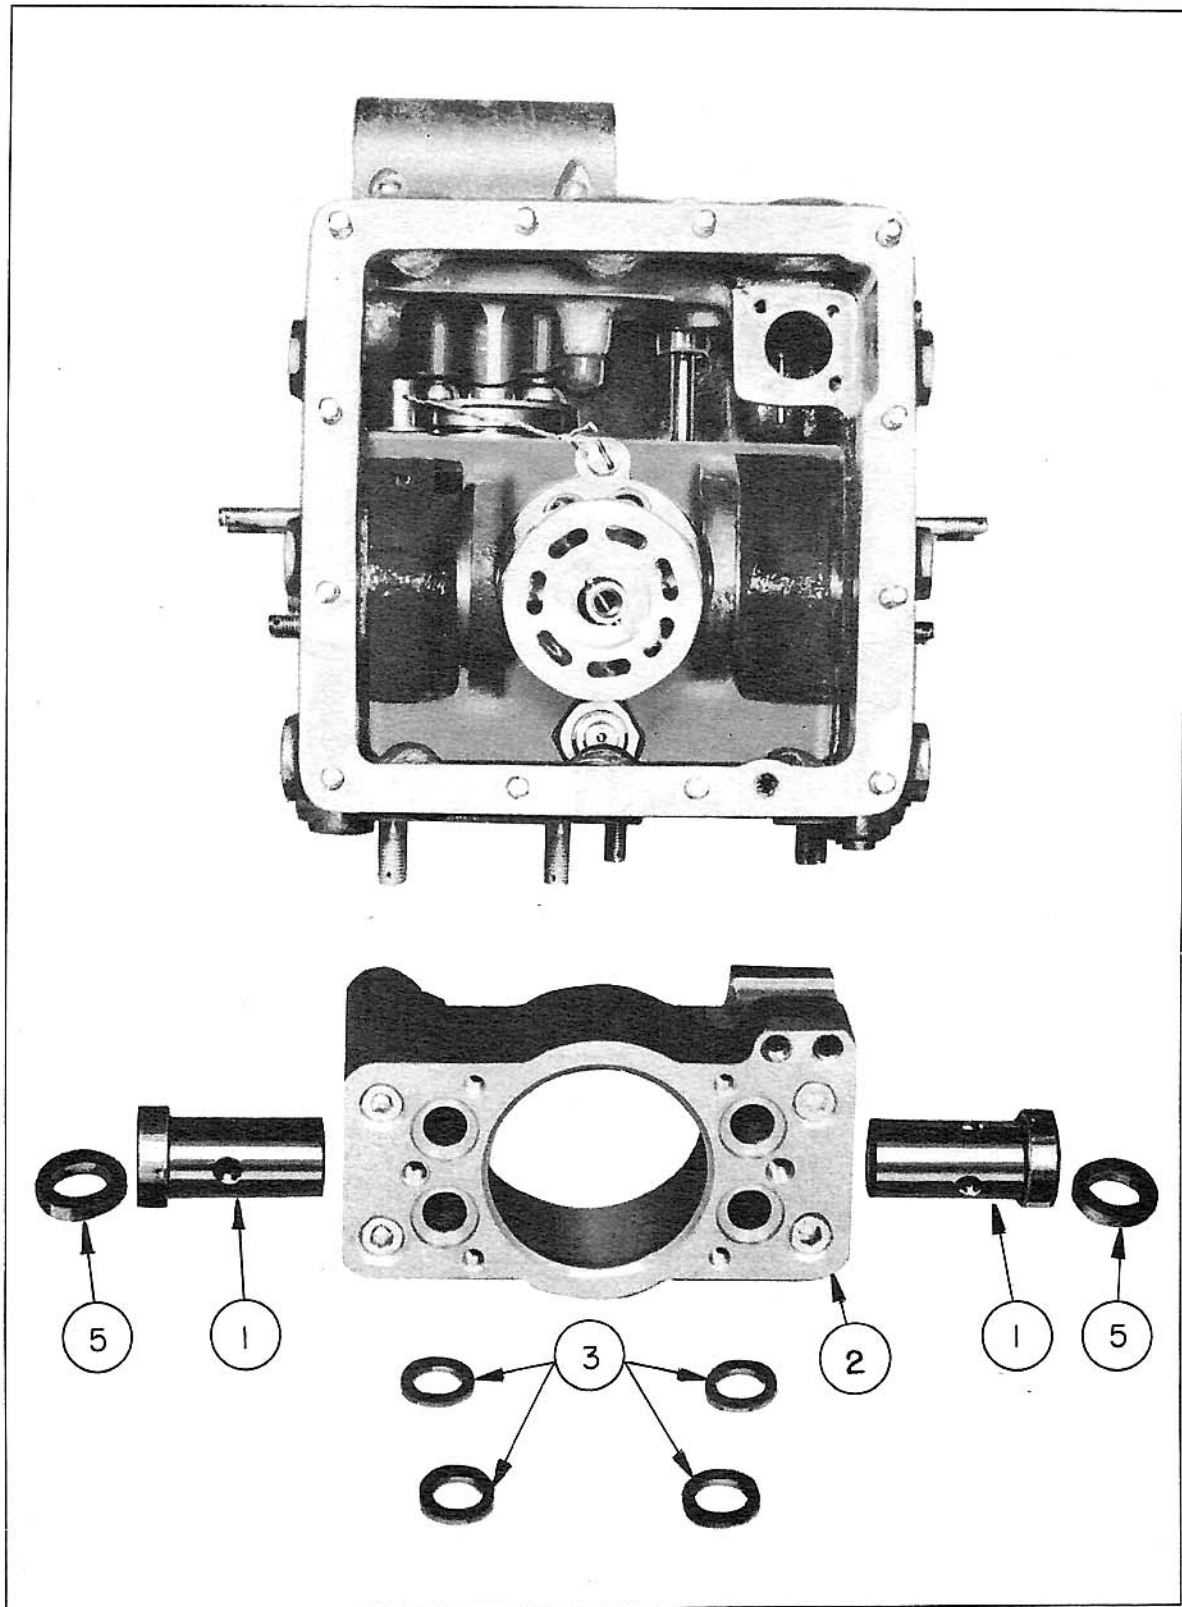

FIGURE 27
7. Pintles and Yoke (Fig. 27)
8. Pintles and Yoke (See Figure 27.) - a. Use a 3/8"-16 thread bolt to screw partially into each pintle (1) and then pull the pintle and bolt out. When both pintles are removed, the yoke (2) can be lifted from the housing. Be sure to remove the gaskets between the pintles and the housing.
6. Yoke and Pintles (Fig. 27)
7. Yoke and Pintles (See Figure 27.) - a. Set the yoke (2) into the housing (making sure that the 4 "Neoprene" gaskets (3) are in their holes in the yoke face, and that the leather gaskets are in place in the yoke bearings). Place a pintle gasket (5) on each pintle (1) and insert the pintles into the yoke sleeves. If there is more than .008" end play, insert an extra gasket on each pintle.